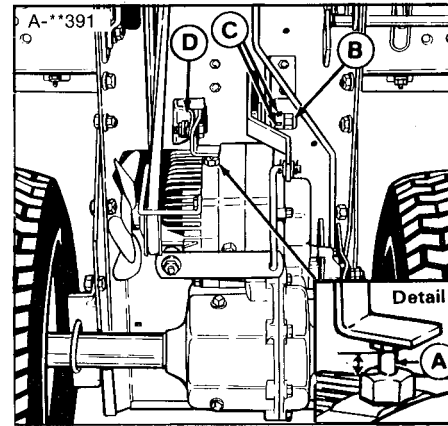

Figure 31. Engagement Lever Adjustment
B. Transmission Engagement Lever figure 31) to loosen or tighten the lever. Some models are equipped with setscrews (C) which must be loosened to adjust nut then retightened.
4. Locate the plunger (A, figure 31) on front of the transmission which is operated by the lever. Check the clearance between the plunger and the fitting as shown in the detail in figure 31. It should be 0.060 inch to 0.125 inch.
5. To adjust, loosen the engagement lever bracket (D) screws and move to achieve the 0.060 to 0.125 inch dimension. Tighten the screws.